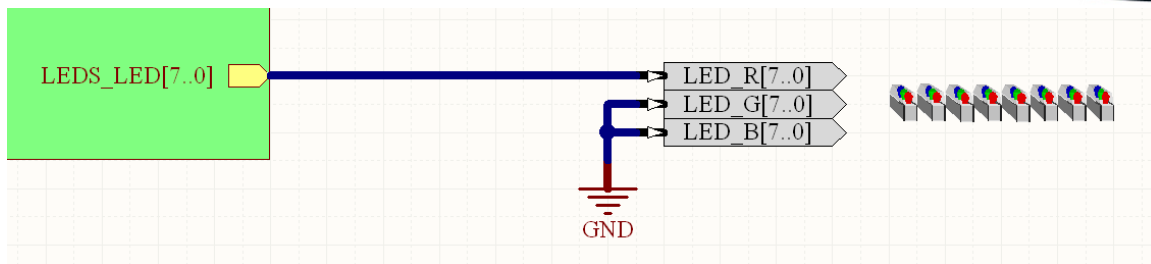

Figure 12. Wire the red pin of the LEDs, using a Bus line, and then wire the unused pins to ground, using a Bus Ground.
32. Wire the 2 unused pins on the LEDs to a Bus Ground Power Port, as shown in Figure 12.